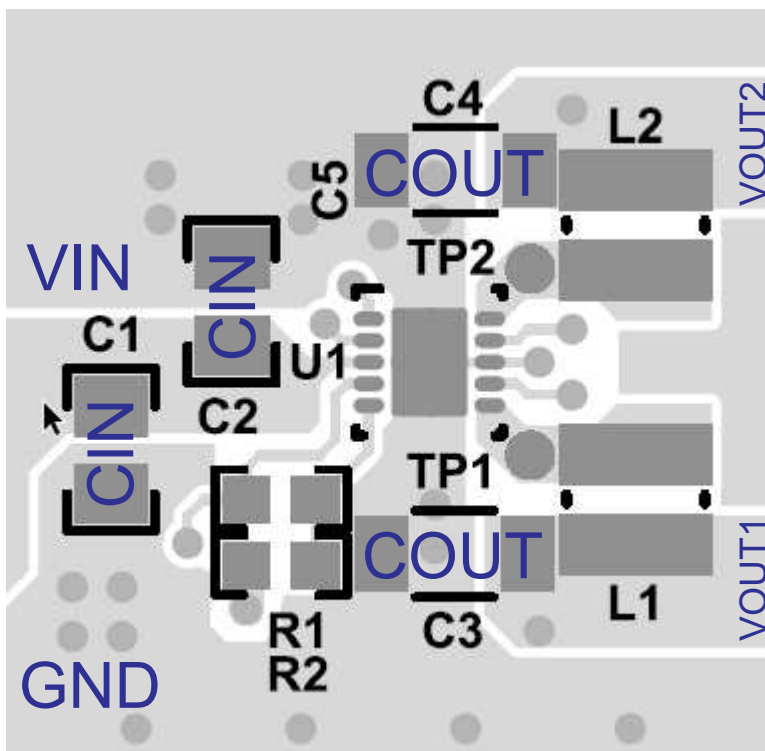

Figure 38. Layout Diagram
- It is critical to provide a low-inductance, low-impedance ground path. Therefore, use wide and short traces for the main current paths as indicated in bold in Figure 38.